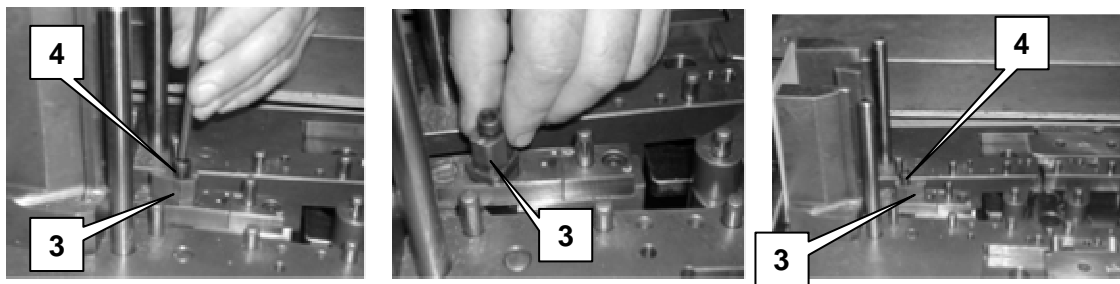

Fig. 4.44 – Pusher I
2. find in tables of Annex 1 “*Bending Parameters*” the configuration of pusher I (see fig. 4.41) and reposition it in case it is not on required position. To reposition pusher I it is necessary to proceed as follows (fig. 4.44):